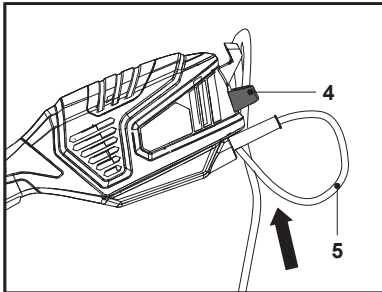

Fig. 10
1. Double the power cord (5) back, about 60 cm from the power guard and lead the loop through the hole of the rear safeguard (4). Pull it over the cord retainer (4) and gently tug on the power cord (5) to ensure that it is firmly secured (Figs. 10, 11).